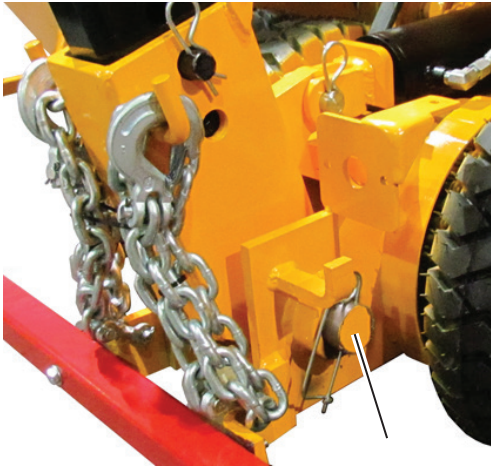

Figure 4-4. Towing
5. Make sure main tongue pin is in place. See **Figure 4-4**.